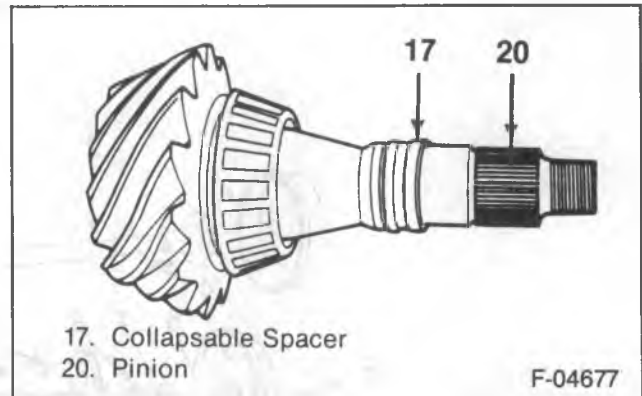
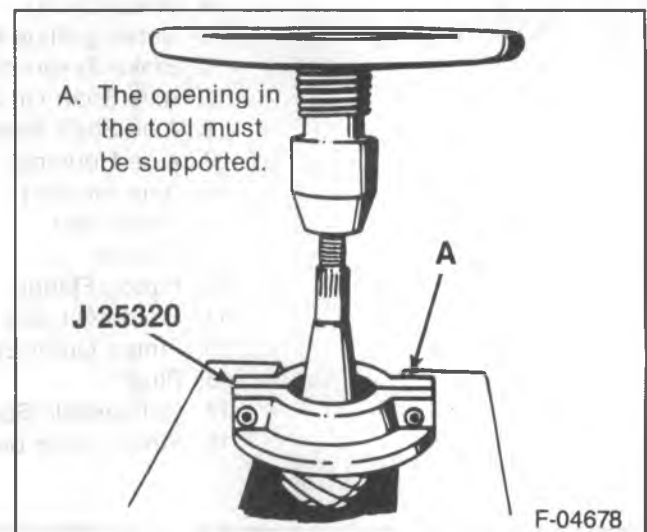

Figure 5—Pinion Collapsible Spacer
Figure 6—Removing the Pinion Rear Bearing
14. Pinion flange nut (11) and washer (12) using J 8614-01 to hold the pinion flange.
16. Pinion (20) from the axle housing.
- Replace the differential cover (34) with two bolts (35) to keep the pinion from falling to the floor.
- Remove the cover (34) and the pinion (20).
17. Collapsible spacer (17) from the pinion (figure 5).
18. Outer seal (14) and outer pinion bearing (15).
19. Inner bearing (18) and shim (19) from the pinion.
- Press the bearing off the pinion using J 25320 (figure 6).
20. Bearing cups (15) and (18) from the axle housing using a hammer and a punch in the slots provided for this purpose.